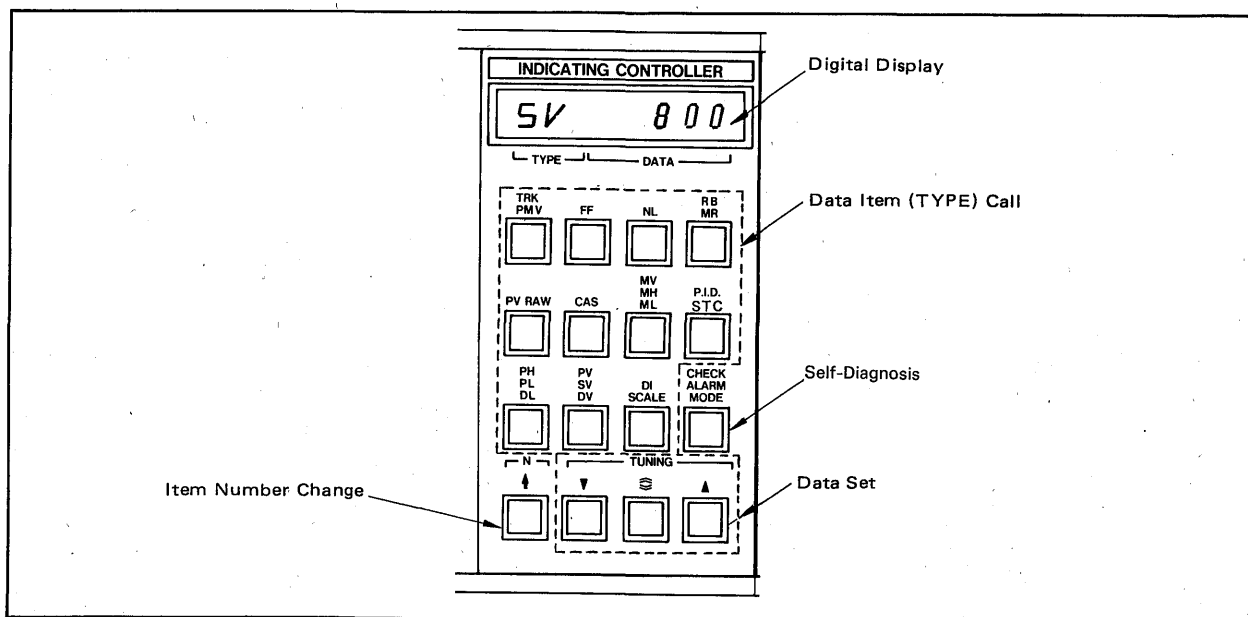

Figure 5-5. Keyboard.
■ Operation of Keyboard (See Figure 5-5).
When the desired data item key is pressed, the corresponding key (TYPE) and data can be displayed (see Figure 5-5). Several data items are assigned to each key and data items are changed in turn whenever the key is pressed.
- 1) Call data items with eleven keys (see Figure 5-5).
(6) Initial Values.